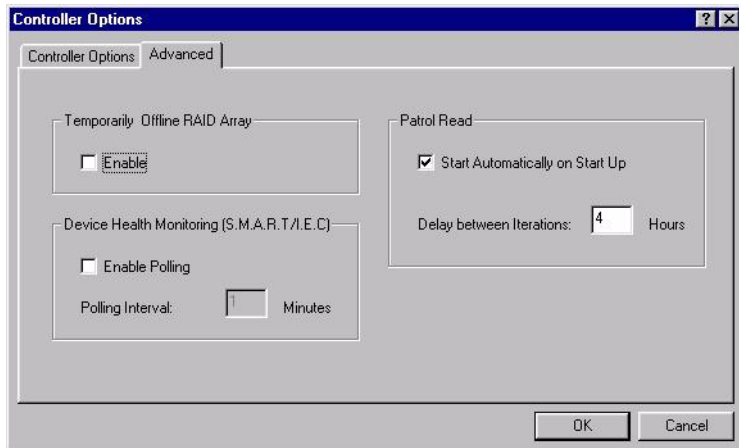

Figure 4-25. Advanced Controller Options Dialog Box for new PCI DAC
1. Select the Advanced Controller Options tab (Figure 4-25).